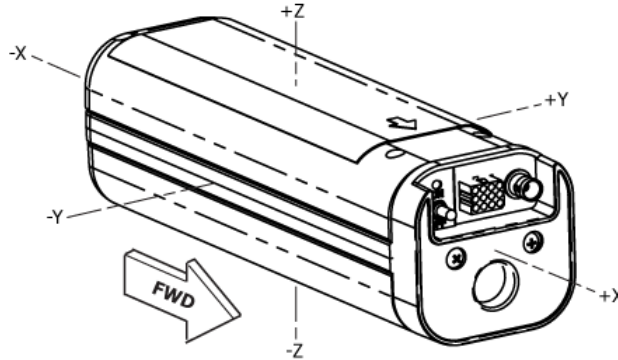

Figure 26 ELT Orthogonal Axes
- 1) Artex recommends installation of the C406-1HM ELT in helicopters. The C406-1HM ELT is equipped with a 5-axis G-switch module in addition to the usual primary G-switch, which is oriented to the direction of flight. See Figure 26.